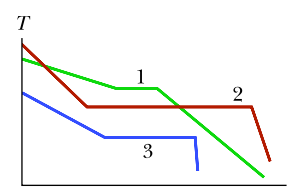

Figure 18.5 Question 9.
**9** Three different materials of identical mass are placed one at a time in a special freezer that can extract energy from a material at a certain constant rate. During the cooling process, each material begins in the liquid state and ends in the solid state; Fig. 18.5 shows the temperature  $T$  versus time  $t$ .